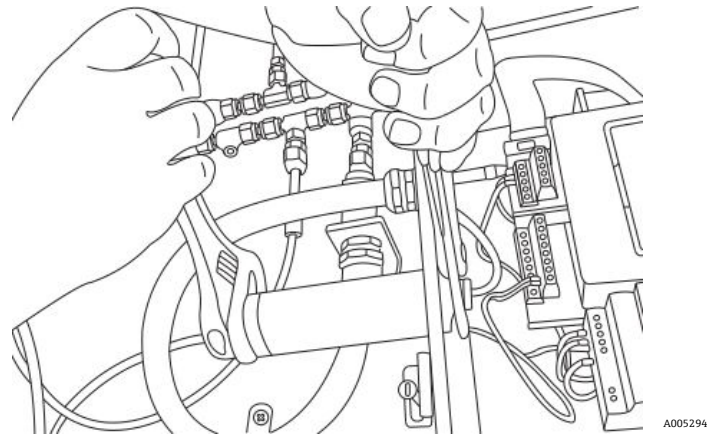

Figure 83. Removing the pressure sensor
8. Loosen the panel mount nut from the pressure sensor on the inside of the enclosure with the adjustable wrench. Refer to Figure 83.